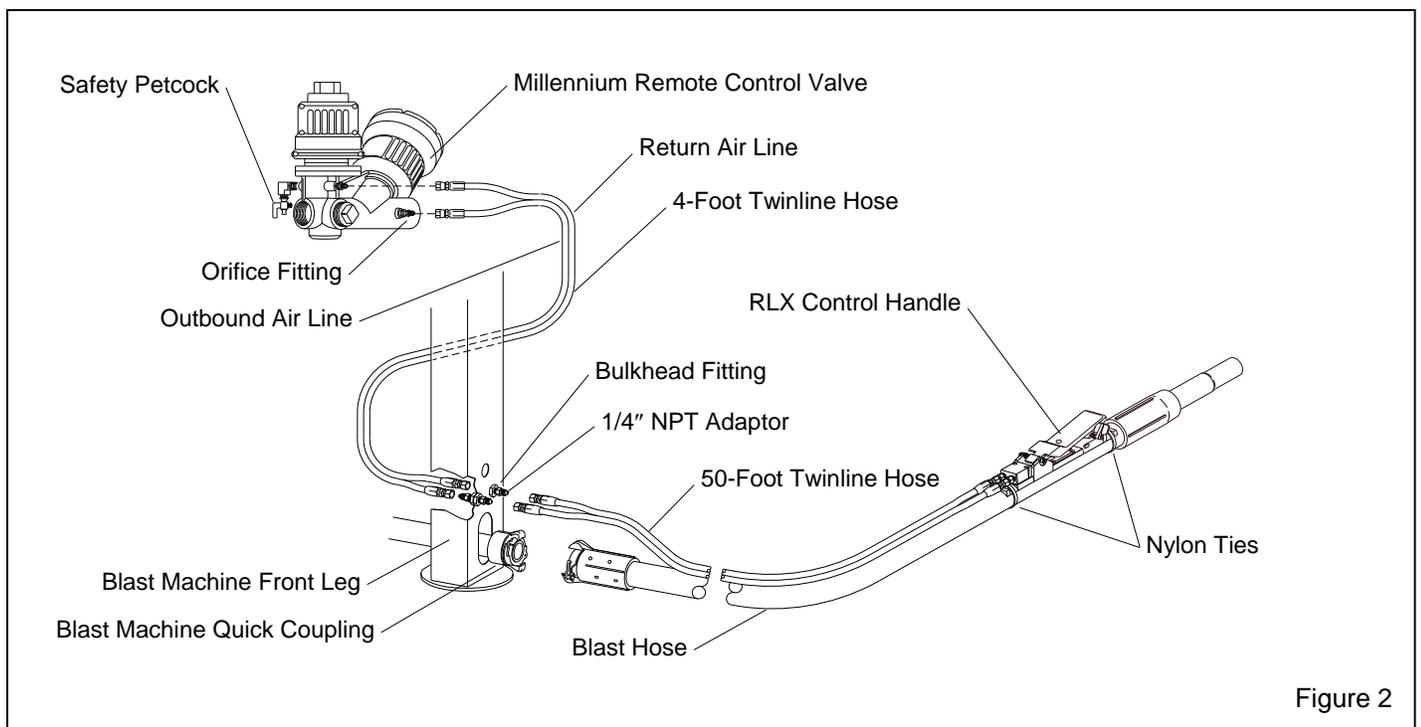

Figure 2
1.3.4.1 The components of the Millennium remote control system are shown in Figure 2. They include the Millennium valve, RLX control handle, 50-foot twinline control hose and 4-foot twinline control hoses, and all necessary fittings.
1.3.4.4 Millennium remote controls operate pneumatically on the "return air" principle (See Figure 2). One stream of air travels down the outbound twinline and escapes through an opening located under the control handle lever. As long as air escapes through the opening, the remote control system remains inactive. When the lever is pressed, the opening is sealed, and air from the outbound line returns through the return line to open the inlet segment and close the outlet segment of the Millennium valve. This pressurizes the blast machine and begins the blasting process. Releasing the handle exhausts the control air, which closes the inlet segment, and opens the outlet segment to depressurize the machine and stop the blasting.
2.1 Blast Hose and Control Hose Connections, See Figure 2.